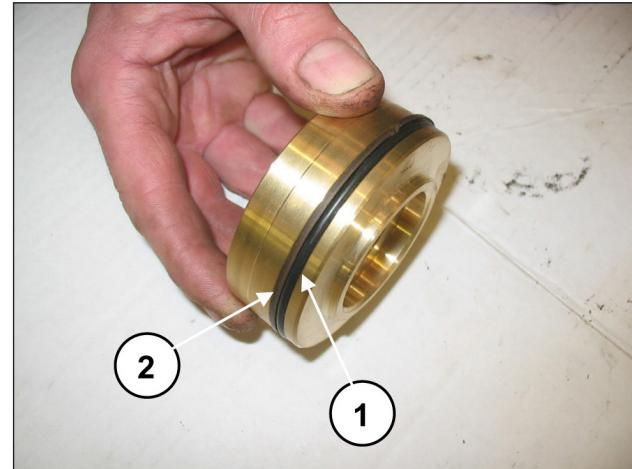

Fig. 127
Fit the O-ring, exploded view pos. 17 (pos. ①, Fig. 127) and back-up ring, exploded view pos. 21 (pos. ②, Fig. 127) on the outlet valve plug.